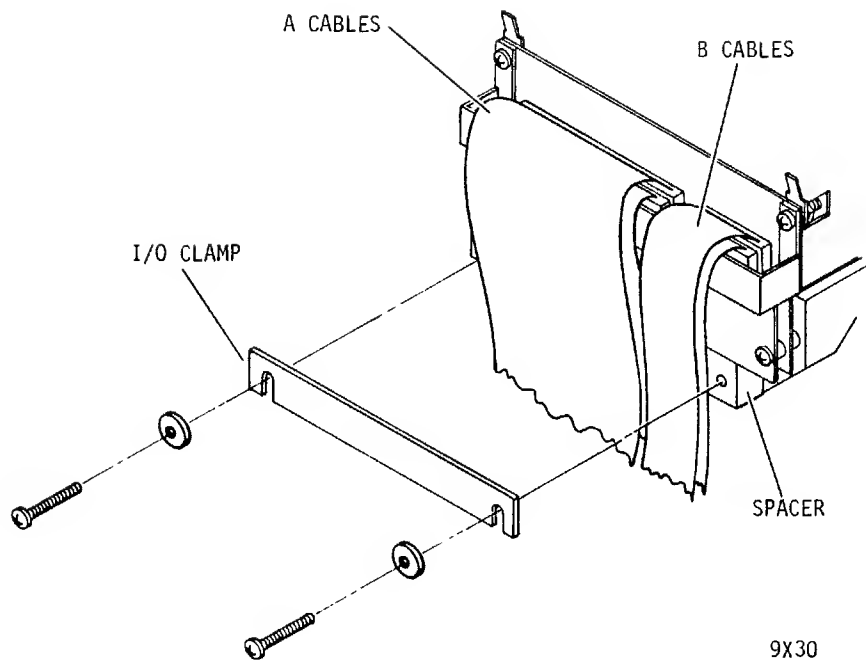

Figure 1-18. Securing Flat I/O Cables
1. Remove I/O clamp from spacer on logic chassis (see figure 1-18).